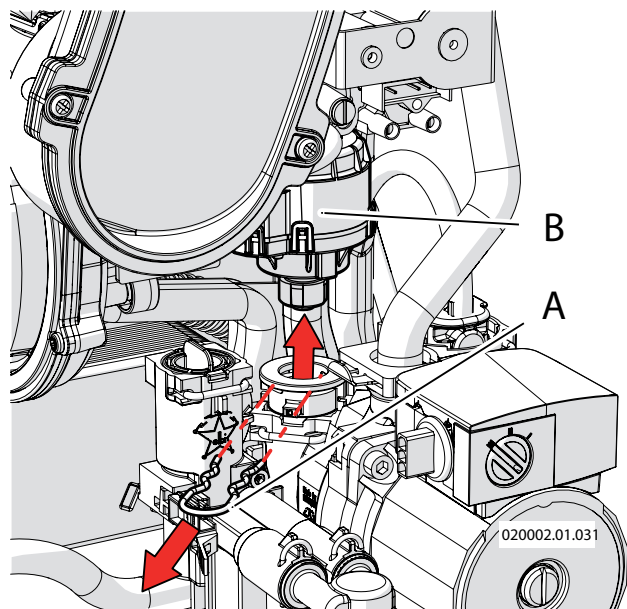

Figure 8.11 - Removing the servo-motor
Proceed as follows, making reference to figure 8.11:
- 4.- extract the servo-motor "B" in figure 8.11 upwards.